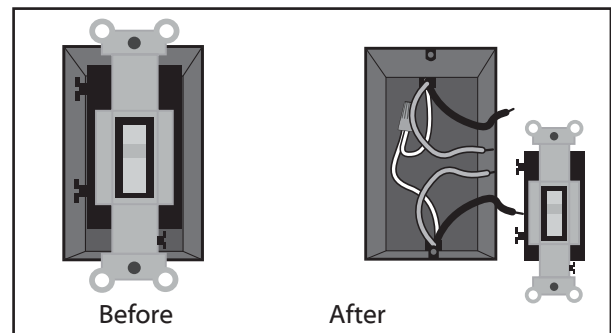

Figure 17
3. After removing the switch plate cover, remove all wiring from the switch. Figure 17.